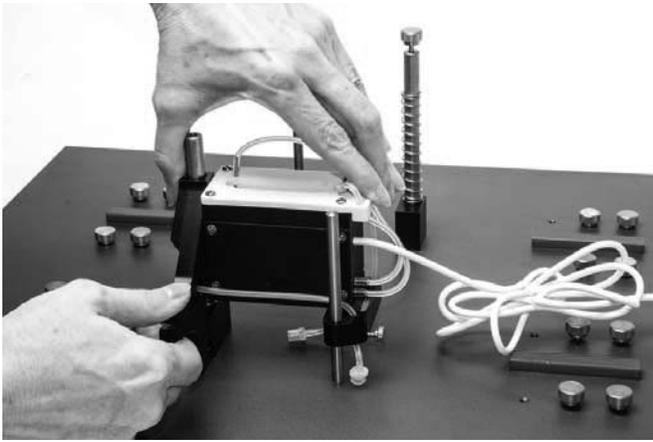

Fig. 9—Pinch the cuvette latch together with one hand and gently press down with the other hand to secure the cuvette in its low position.
5. Gently press the cuvette latch to retract it and slide the cuvette into its lower position (Fig. 9). Release the latch so that it holds the cuvette in the lower position.